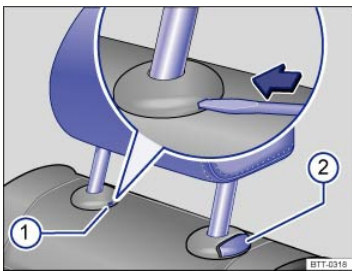

Fig. 42 Removing the rear head restraints.
- If necessary, press the flat blade of the screwdriver from the vehicle tool kit into the slit of the trim cap ⇒ Fig. 42① in the direction of the arrow and hold it in this position.
- At the same time press button ② while a second person pulls out the head restraint completely.
- Push the head restraint down while pressing button ⇒ Fig. 42②.